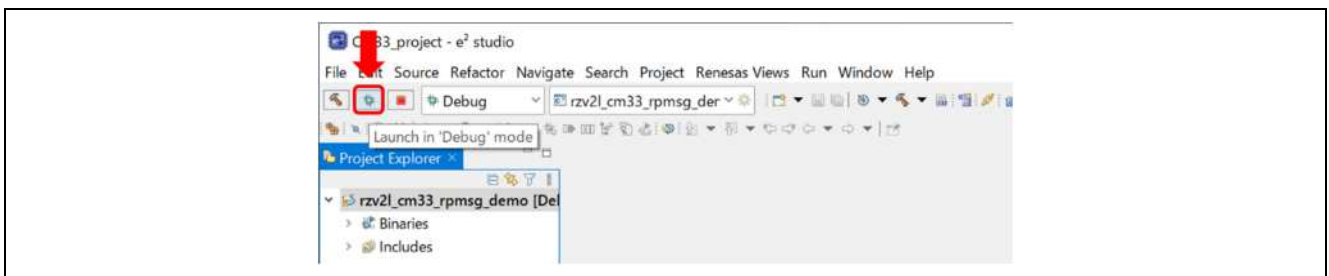

Figure 4-5. Selection of Debug Configuration
1. Choose **rzv2l_cm33_rpmsg_linux-rtos_demo Debug_Flat** or **rzv2l_cm33_rpmsg_linux-rtos_demo Release_Flat** from the drop-down list indicated by a red arrow in Figure 4-5.